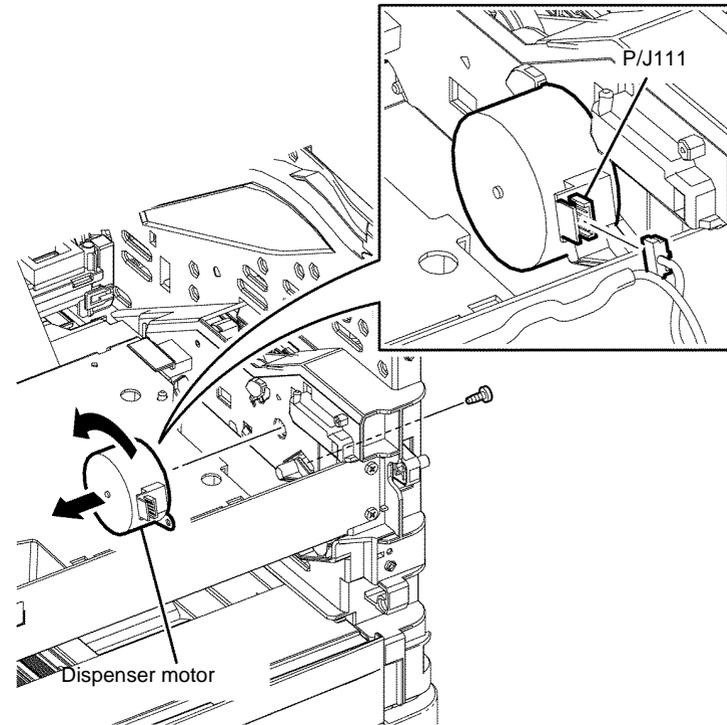

Figure 2 Dispenser motor removal
11. Disengage P/J111 of the harness connected to the dispenser motor, Figure 2.
12. Remove one screw (silver, tapping, 8mm) that fixes the dispenser motor, rotate the dispenser motor anti-clockwise and remove, Figure 2.